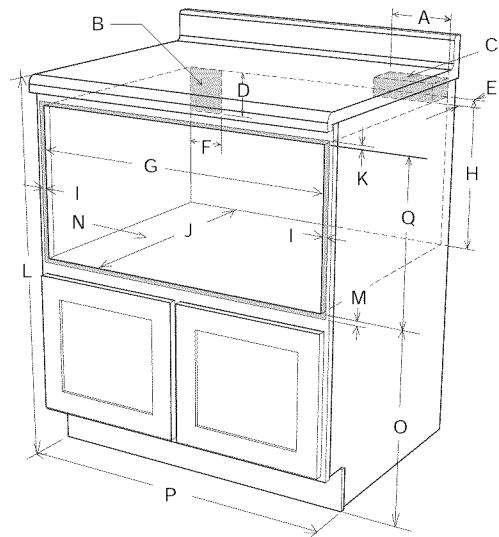
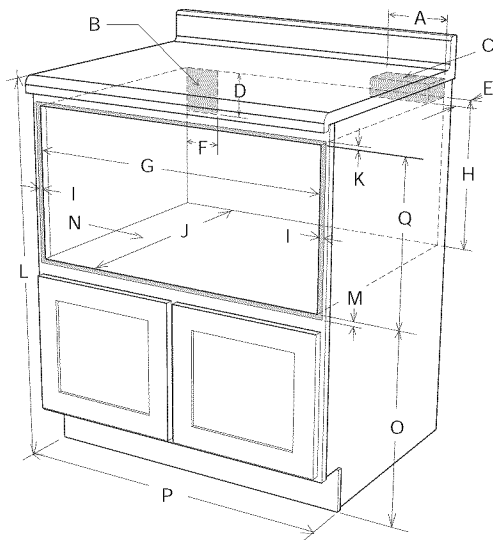
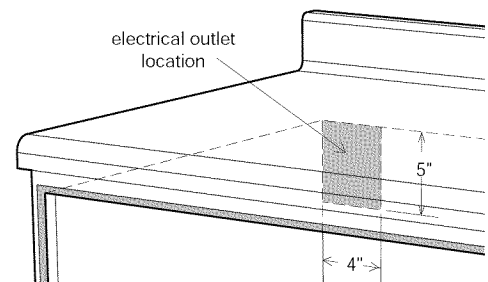

Figure 2
Figure 4
Figure 8
For SAFETY CONSIDERATIONS do not install the drawer in any combustible cabinetry, which is not in accord with the stated clearances and dimensions on pages 3, 4 and 5. See **Figure 2** (for 24") or **Figures 4 and 5** (for 30").
- Dimensions that are shown in **Figures 2, 4 and 5** must be used. Given dimensions provide minimum clearance. Locate the electrical outlet in the shaded area in the upper left-hand corner of the cutout. See **Figure 8**.
To reduce the risk of tipping the drawer, the anti-tip block must be properly installed 14 3/4" above the floor cutout. The 6" anti-tip block must be provided by the installer. See **Figures 2 and 6** for (24") or **Figures 4, 5, and 6** (for 30"). The anti-tip block prevents serious injury that might result from spilled hot liquids.